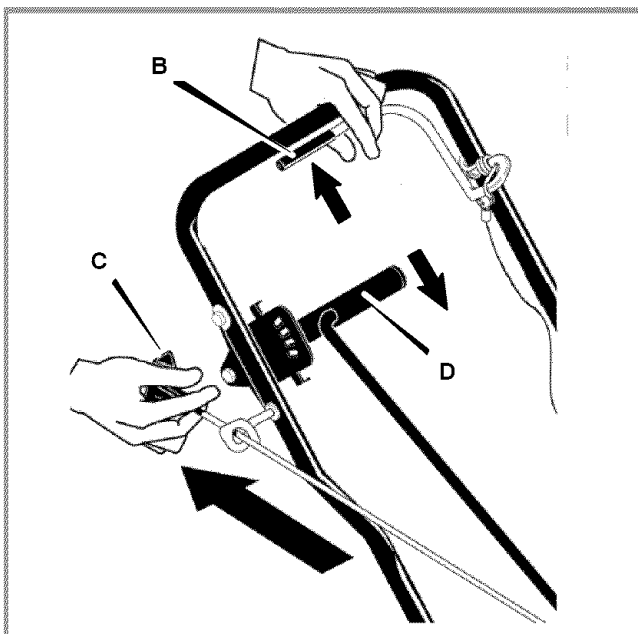

Figure 8: Operating Controls
- 1 Before starting the engine, make sure to raise the blade. To raise the blade, move the depth control lever (D) forward until the blade will not contact the ground. See Figure 8.